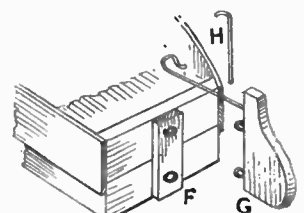

Fig. 4—Stern and rudder
There is a stern post next to be fixed, as (F) in Fig. 4. It should be 1½ ins. long, ¾ in. wide and ¼ in. thick, glued and pinned firmly in place.